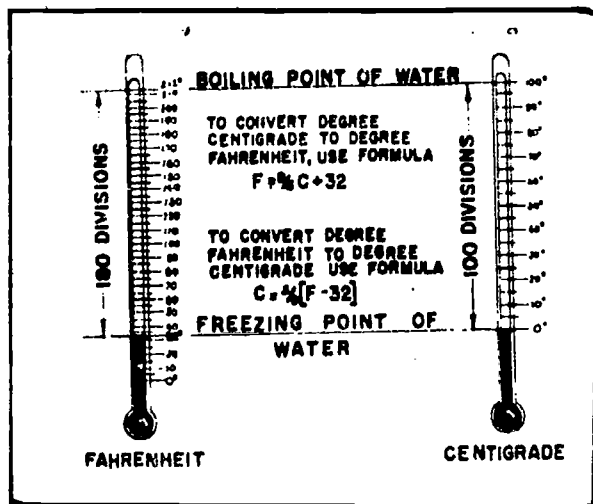

Fig 1-5. Comparison of Fahrenheit and centigrade scales.
- (1) General. The relative degree of a substance's warmth is called temperature. This is not to be confused with the quantity or amount of heat in a substance, but is merely the sensible or measureable warmth of the substance. An ordinary thermometer is used to measure temperature. There are two types of scales in common use today to measure temperature, Fahrenheit and centigrade. Both of these scales were arbitrarily chosen by scientists and both employ a glass tube of uniform bore, a bulb at the bottom of the tube, and contain a liquid, usually mercury or alcohol. The Fahrenheit scale is divided into 180 equal divisions between the freezing (also melting) and boiling point of water, whereas the centigrade scale is divided into 100 divisions. Water will freeze (melt) at 32° on the Fahrenheit scale and boil at 212° . On the centigrade scale, water freezes at 0° and boils at 100°C . A comparison of the two scales can be seen in figure 1-5. Water was chosen as a standard for these thermometers because it has a very constant freezing and boiling point, and is an extremely common substance.